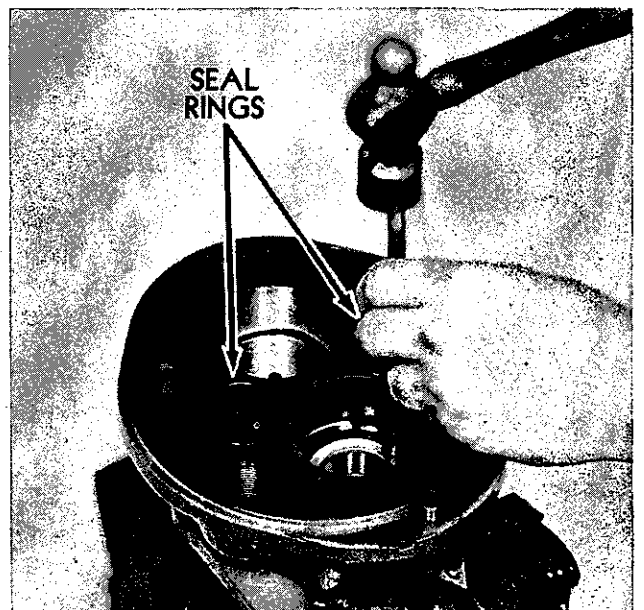

Figure 10
20. Remove thrust bearing by tapping lightly with a drift pin of soft material inserted through the drive shaft bearing bore. Tap opposite sides alternately. (See Figure 10)
side of wear plate and center the wear plate with shafts. Then install the seal rings to the grooves in pump cover and install the dowel bushing, see Figure 10.